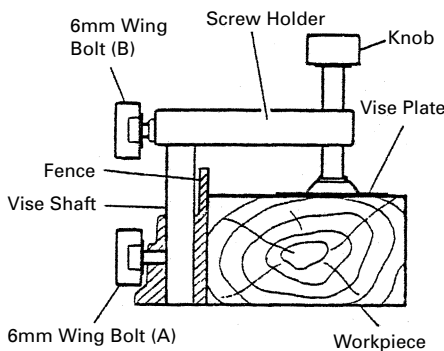

Fig. 22
- (1) The vise assembly can be mounted on either the left fence {Fence (B)} or the right fence {Fence (A)} by loosening the 6mm wing bolt (A).
- (2) The screw holder can be raised or lowered according to the height of the workpiece by loosening the 6mm wing bolt (B). After the adjustment, firmly tighten the 6mm wing bolt (B) and fix the screw holder.
- (3) Turn the upper knob and securely fix the workpiece in position (Fig. 22).